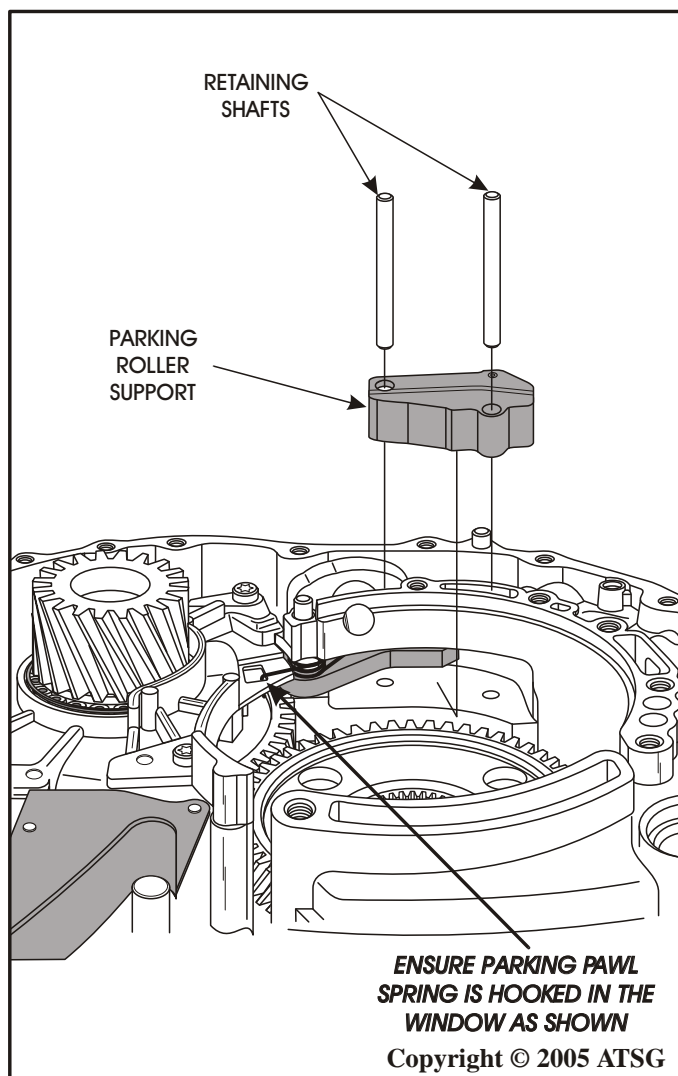

Figure 165
25. Hook the parking pawl return spring in the window of bearing support (See Figure 165).
26. Install the parking roller support, as shown in Figure 165, and install the retaining pins.
Note: *Check once again to ensure that park pawl return spring is hooked in the window, as shown in Figure 165.*